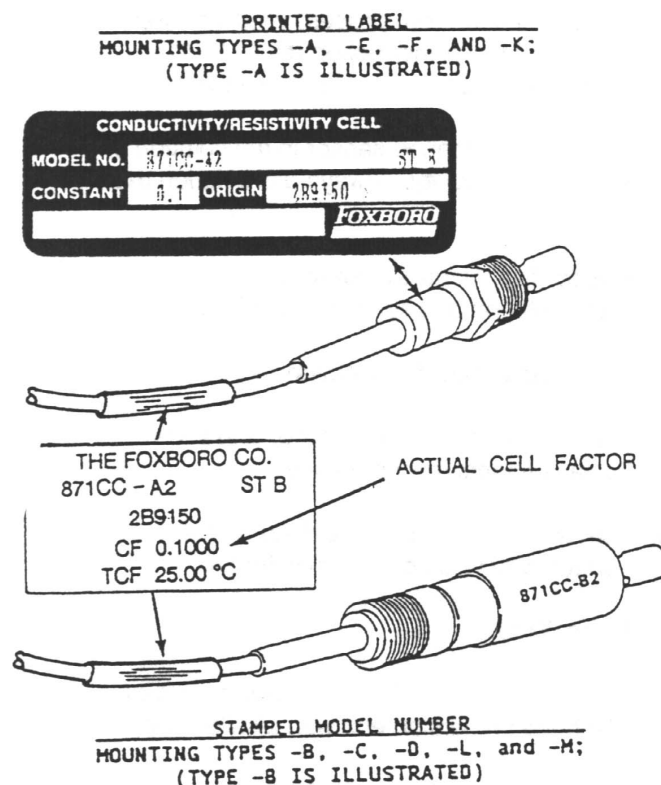

Figure 25. Sensor Identification
871CC Sensors with 0.1 cm^{-1} nominal cell constants are stamped with a 4-digit number (e.g., .1001) which is the cell factor (CF) of that particular cell when tested in our factory. These cells are also stamped with a temperature value (tCF) (e.g., 24.97°C) which is the temperature where that particular transducer read its theoretical resistance value. See Figure 25. When the sensor is connected directly to the Analyzer, these factors may be input directly into the 873CC to correct for these offsets. Alternately, the procedures that follow may be used to **determine** these offset values, and must be used when additional cable lengths are used with the sensors.